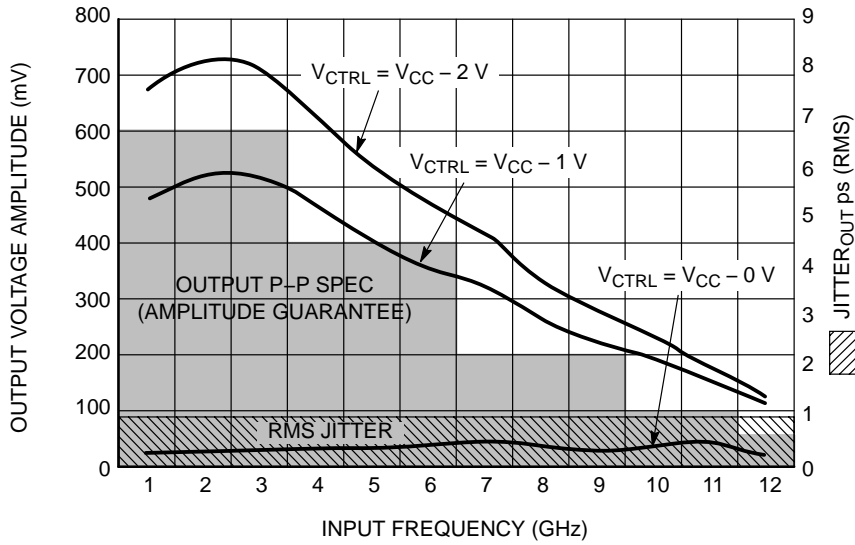

Figure 9. Output Voltage Amplitude (V_{OUTPP}) / RMS Jitter vs. Input Frequency (f_{in}) at Ambient Temperature (Typical)
33. Conditions include input amplitude of 500 mV and $V_{CTRL} = V_{CC} - 2\text{ V}$. Minimum output amplitude guarantee of 100 mV (see Output P-P Spec in Figure 9).
41. Conditions include input amplitude of 500 mV and $V_{CTRL} = V_{CC} - 2\text{ V}$. Minimum output amplitude guarantee of 100 mV (see Output P-P Spec in Figure 9).